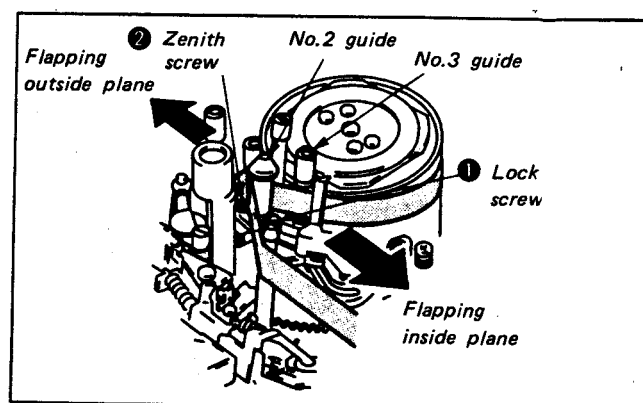

Fig. 4-4
- 1) Play back the tracking alignment tape (WR5-1C) and loosen No.2 guide lock screw ①, and rotate No.2 and No.3 guides counterclockwise to free tape running on the entrance side. (Fig. 4-4)
Adjust the No.2 guide zenith screw ② by turning it counterclockwise 90° at a time. (Fig. 4-4)
- 7) Tighten No.2 lock screw ①. (Fig. 4-4)